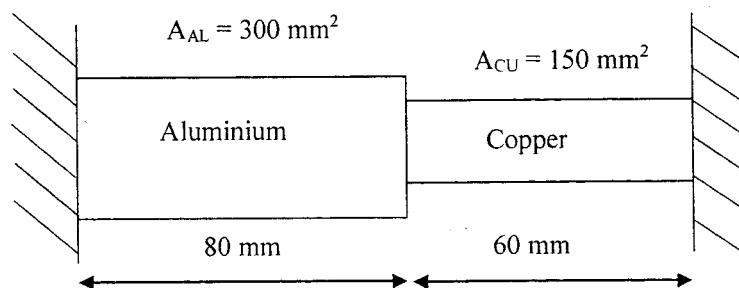

Figure 1(c)/ Rajah 1(c)
- (c) A series of bar consists of copper and aluminium bar which is fixed in between two rigid walls as **Figure 1(c)**. Determine the thermal stress induced in each bar if the temperature is increased by 80°C . Given that $E_{\text{aluminium}} = 69 \text{ GNm}^2$ and $E_{\text{copper}} = 112 \text{ GN/m}^2$. $\alpha_{\text{aluminium}} = 23 \times 10^{-6} /^{\circ}\text{C}$, $\alpha_{\text{copper}} = 17 \times 10^{-6} /^{\circ}\text{C}$.